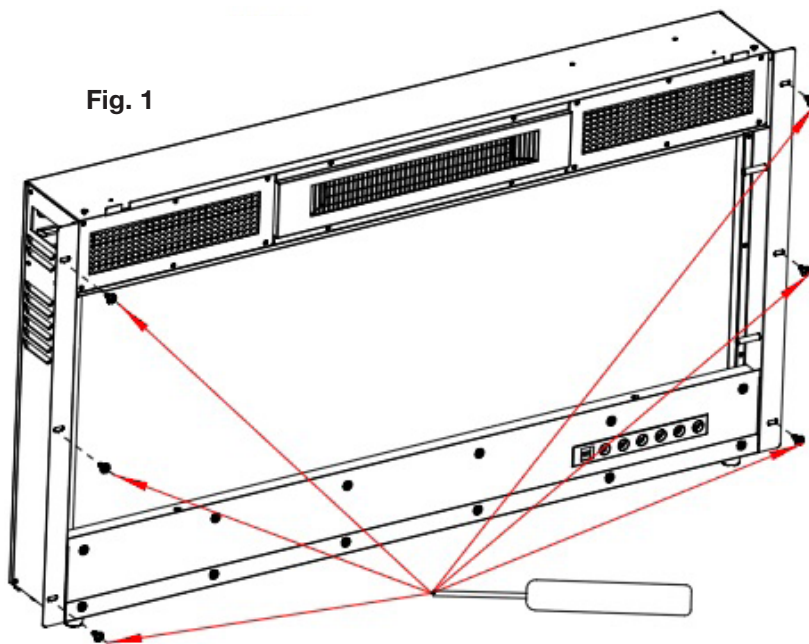

Fig. 1
- Use 6 screws (provided) to lock the appliance into the wall with the existing 2 side flanges (**Fig. 1**).